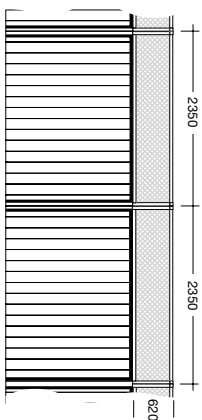

Fig. 1
- Check the spacing of the fence posts. Each Matrix fence extension is 2350mm long as shown in Fig 1. You will need to shorten the top and bottom rails and lattice panel of the Matrix fence extensions if the spacing of the fence posts is less than 2350mm.